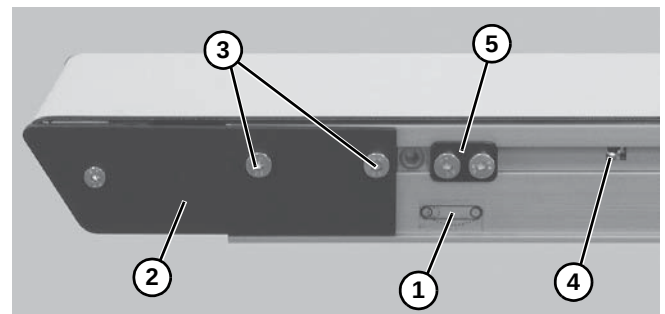
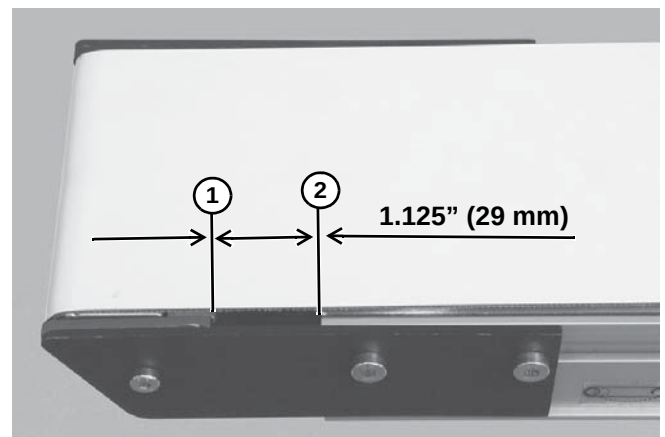

Figure 40
Figure 41
1. On tension end of the conveyor, identified with a  label (**Figure 40, item 1**), adjust head plate assembly (**Figure 40, item 2**): On both sides of conveyor, loosen fastening screws (**Figure 40, item 3**) and rotate pinion gear (**Figure 40, item 4**) to adjust head plate assembly.
2. Adjust head plate assembly so the edge of the axle support plate (**Figure 41, item 1**) is separated from the end of the conveyor (**Figure 41, item 2**) by 1.125" (29 mm). Tighten fastening screws (**Figure 40, item 1**) on both sides of conveyor to 60 in-lb (7 Nm).
3. If equipped with cam tracking assemblies (**Figure 40, item 3**) position against head plates and adjust belt tracking. Refer to "Conveyor Belt Tracking" on page 19.